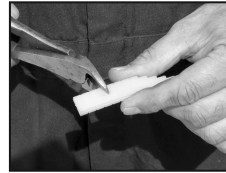

Fig. 1
Step 1. Trim referencing gauge to proper length, being sure not to cut the "stepped" portion (**Fig.1**). Proper gauge length is determined by chamber size, type and maximum stroke at which brakes should be readjusted. (**See chart**)